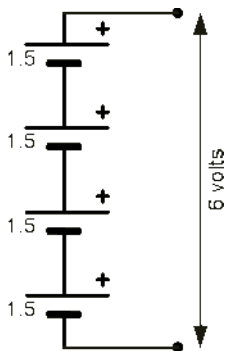

Figure 3
- When the sections are connected in series (Figure 3), in bright sunlight the solar panel produces approximately 6.0V at 0.3A.